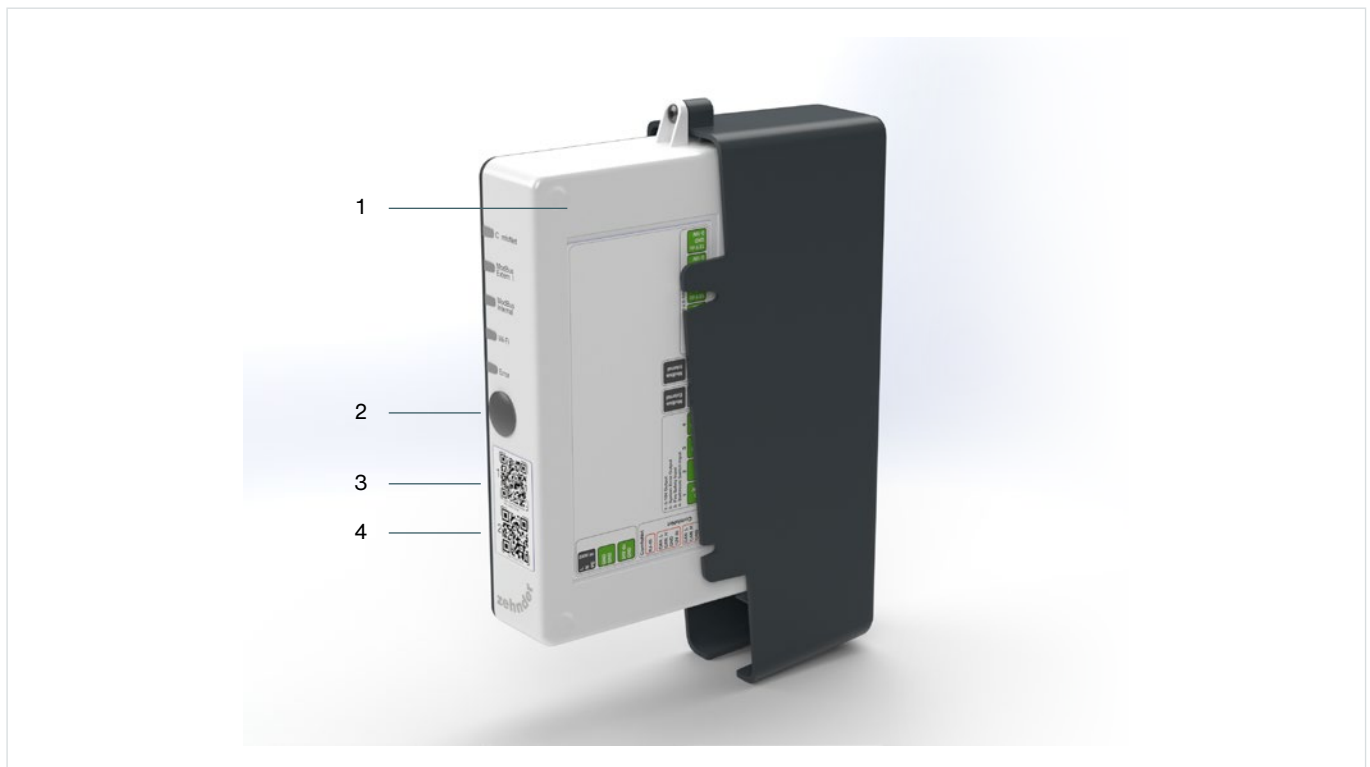

Fig. 6.1 - Activating Wi-Fi on CM
1. Press the Wi-Fi button (Fig. 6.1, pos. 2)
2. Scan the first QR code (1) with a mobile device (not shown). In this way, a connection is established with the correct network, which also contains the password. If a laptop is used, the text below the QR codes can be used. The Wi-Fi SSID name is CVA and the password (PW) is stated below this first QR code.
3. Scan the second QR code (2) to go to the correct URL <http://172.30.135.1/> to the built-in web server (CM-EW). The user name is admin and the password is 4210 (only these four digits).